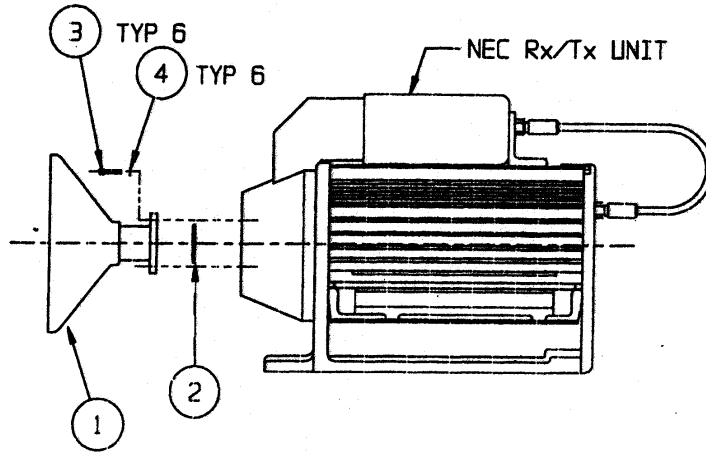

FIGURE 1
Step 1: Attach the feed horn (item #1) to the NEC Rx/Tx unit with the o-ring (item #2) and #6-32 hardware (item #3 & 4) as shown in figure 1. Tighten completely.